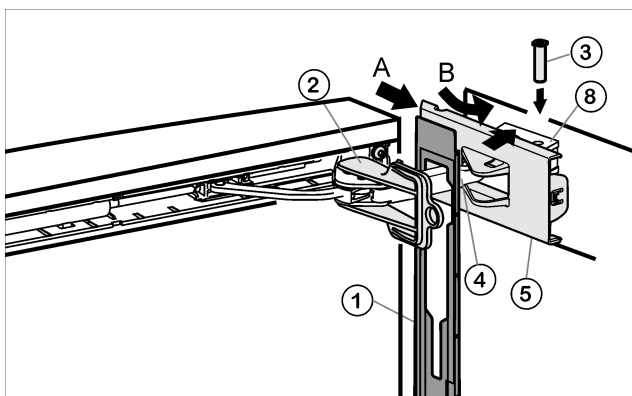

Fig. 26
- ▶ Hook panel *Fig. 26 (1)* into the damper bracket *Fig. 26 (4)* such that the detent hooks are pointing inwards and the front side is facing the appliance.
- ▶ Push on cover *Fig. 26 (5)* from the outside (A) and pivot over the bearing part *Fig. 26 (8)* (B).
- ▶ Place cover *Fig. 26 (5)* on top and allow to snap into place until the first notch.
- ▶ Pull damper bracket *Fig. 26 (4)* towards bearing part and insert bolt *Fig. 26 (3)* from above such that the square is resting in the recess.
- ▶ Now snap cover *Fig. 26 (5)* completely into place on the bearing part *Fig. 26 (8)*.
- ▶ Remove locking device *Fig. 26 (2)* by twisting it.
- ▶ Snap panel *Fig. 26 (1)* into place on the door.